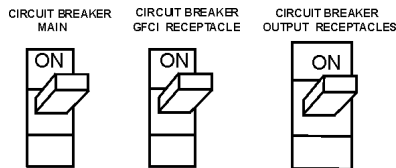

Figure 50. Main and GFCI Circuit Breakers
- Turn the MAIN, GFCI and LOAD circuit breakers to their "ON" position (Figure 50).